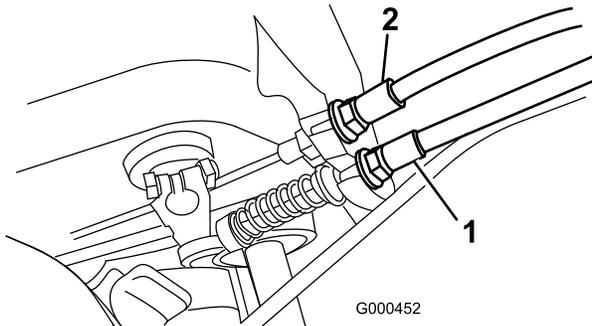

Figure 48
2. To increase cable tension, loosen front cable jam nut and tighten back cable jam nut (Figure 48) until a force of 10-13 lbs. (4.5-5.8 kg) is required to engage traction control.